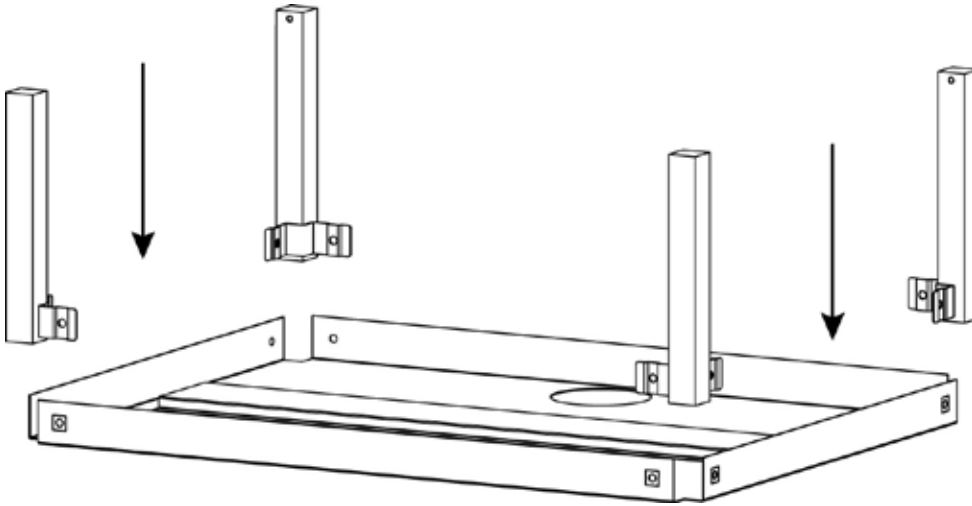
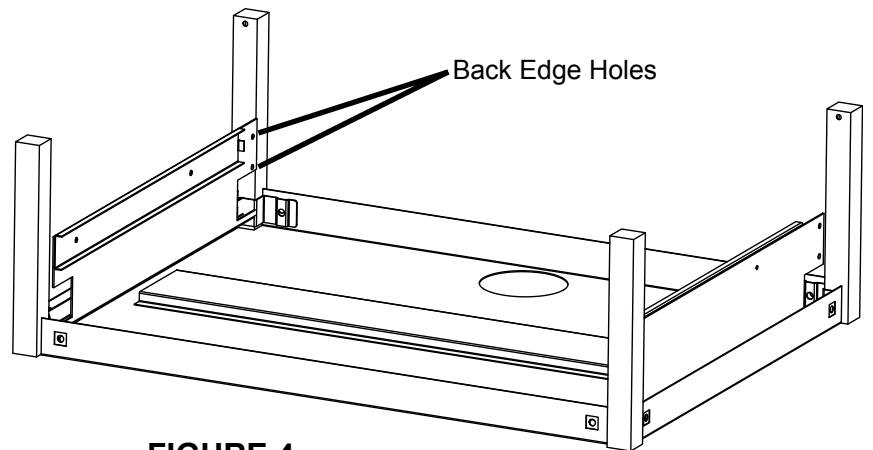
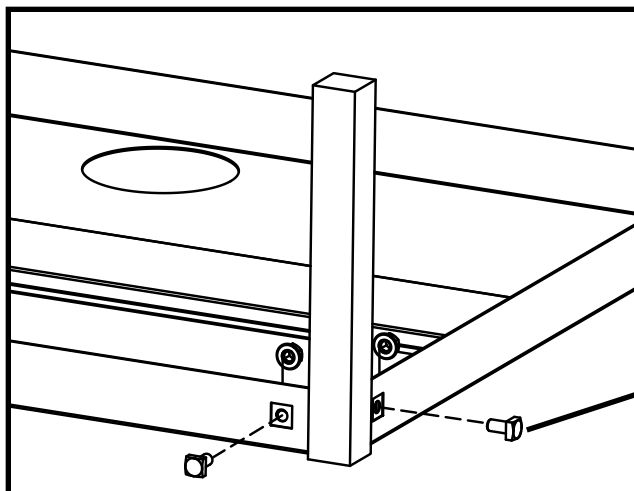

FIGURE 3
FIGURE 4
FIGURE 5
Lay the top shelf down and install the upper legs in each corner as shown in **FIGURE 3**. Slide the right and left slide brackets between the legs as shown in **FIGURE 4**. The slides face inward and the 2 holes face the back edge. Then **LOOSELY** attach legs and brackets to top shelf using bolt (AA) and nuts (BB) as shown in **FIGURE 5**.